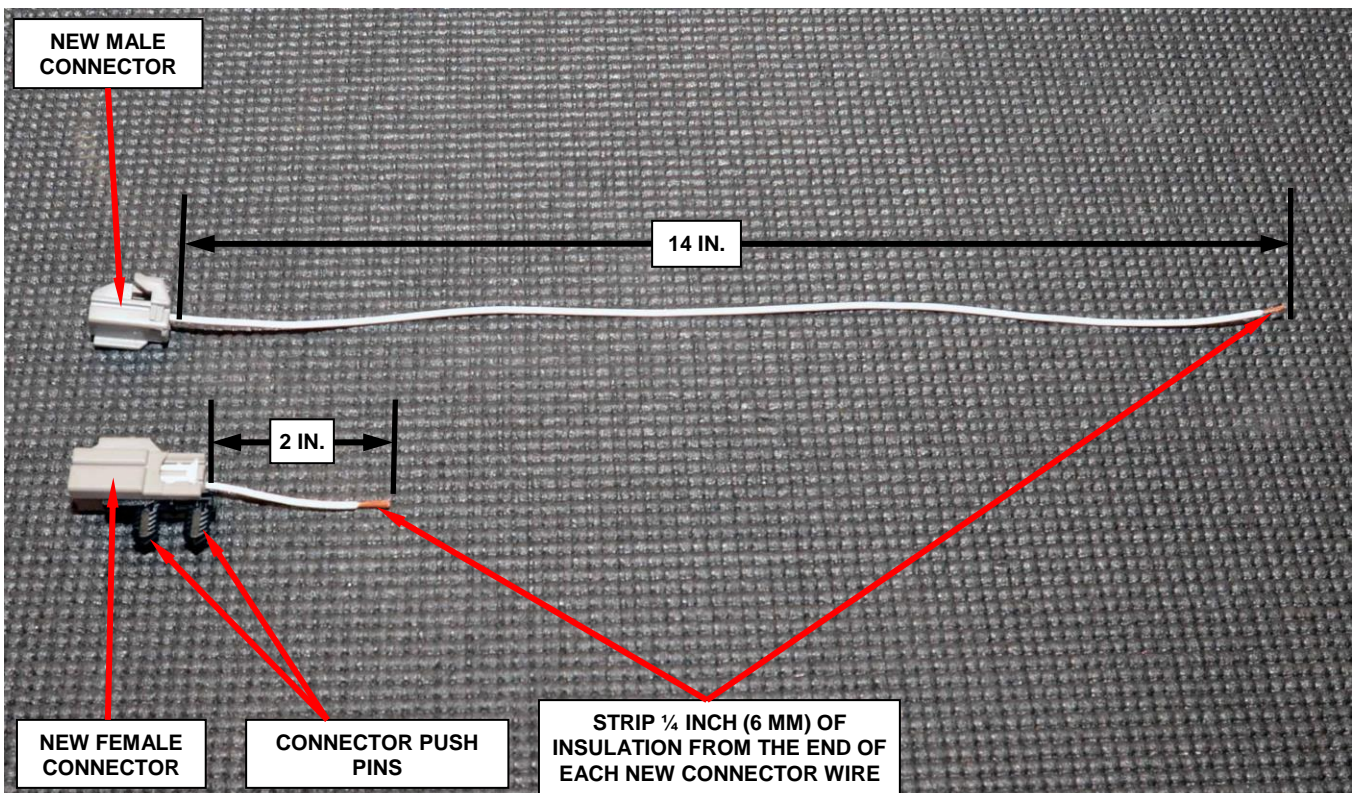

Figure 5 – Wiring Kit Wire Lengths
- a. Cut the new female connector wire so that it is 2 inches (51 mm) long (Figure 5).
- b. Cut the new male connector wire so that it is 14 inches (355 mm) long (Figure 5).
- c. Strip $\frac{1}{4}$ inch (6 mm) of insulation from the end of each new connector wire (Figure 5).